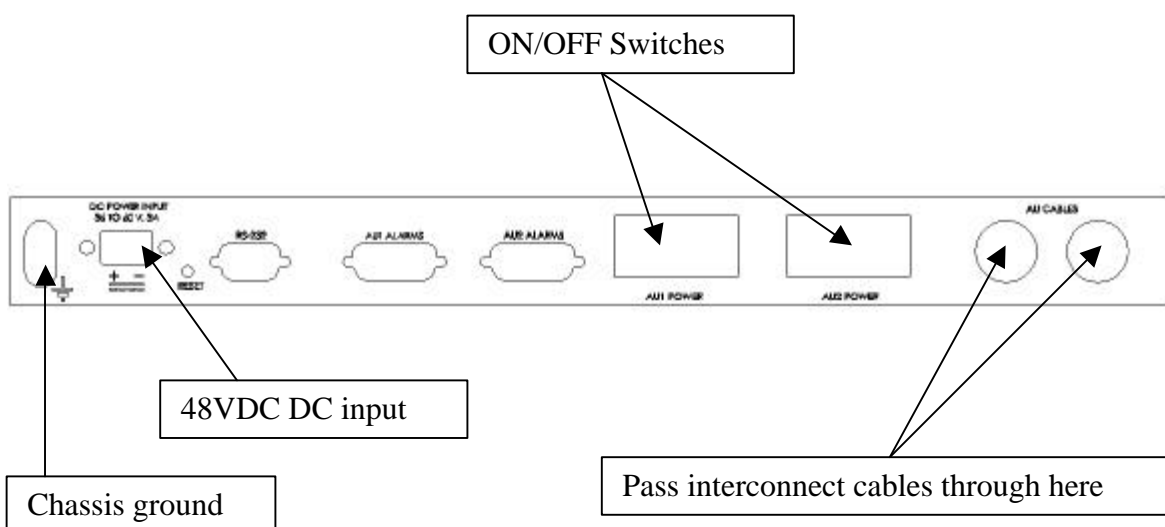

Figure 10. Interface Panel Connections (Rear)
- 6.6.2 Verify the connection of the Interface Panel to the power source. Observe proper polarity of the DC POWER INPUT connections as shown in Figure 10.